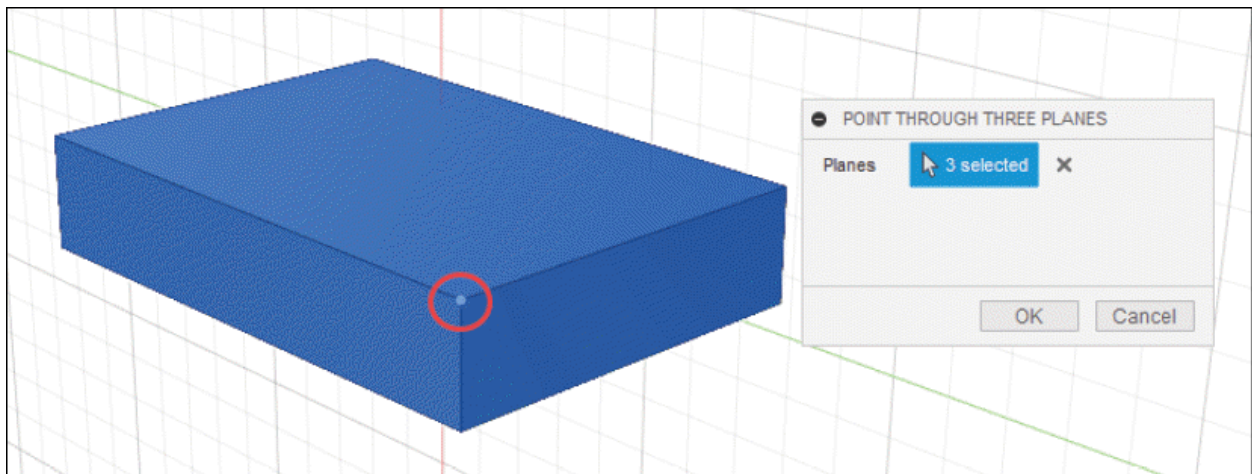

Figure-132. Preview of point through three planes
- On selecting the third plane, preview of the constructional point will be displayed; refer to Figure-132.